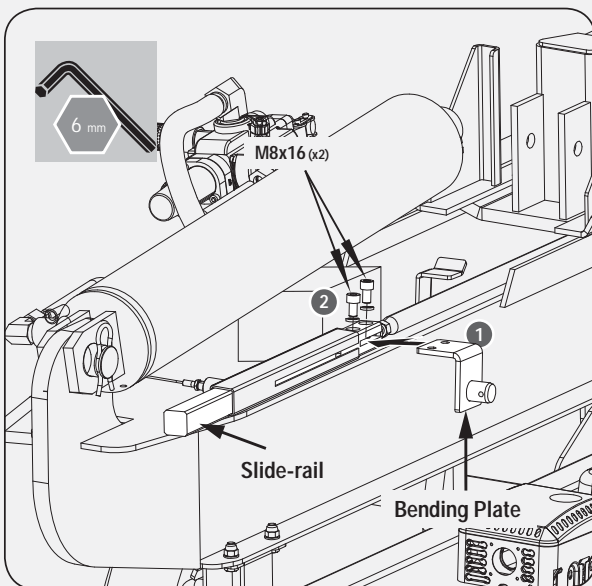

Figure 17b
2. Insert the bending plate into the U-shaped narrow slot of the slide-rail, align the two holes on the bending plate with the two holes on the slide-rail, and then tighten them with M8x16 bolts. (See *Figure 17b.*)